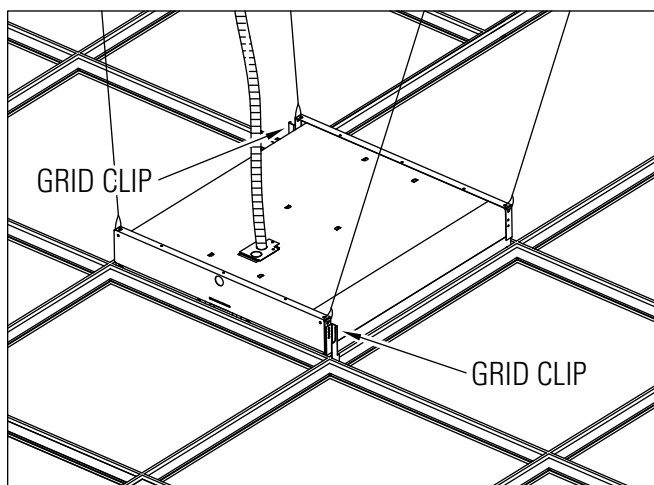

Figure 7
6. Provide power feed wires to fixture per NEC & local codes and re-install ACCESS-PLATE. (Fig. 7)